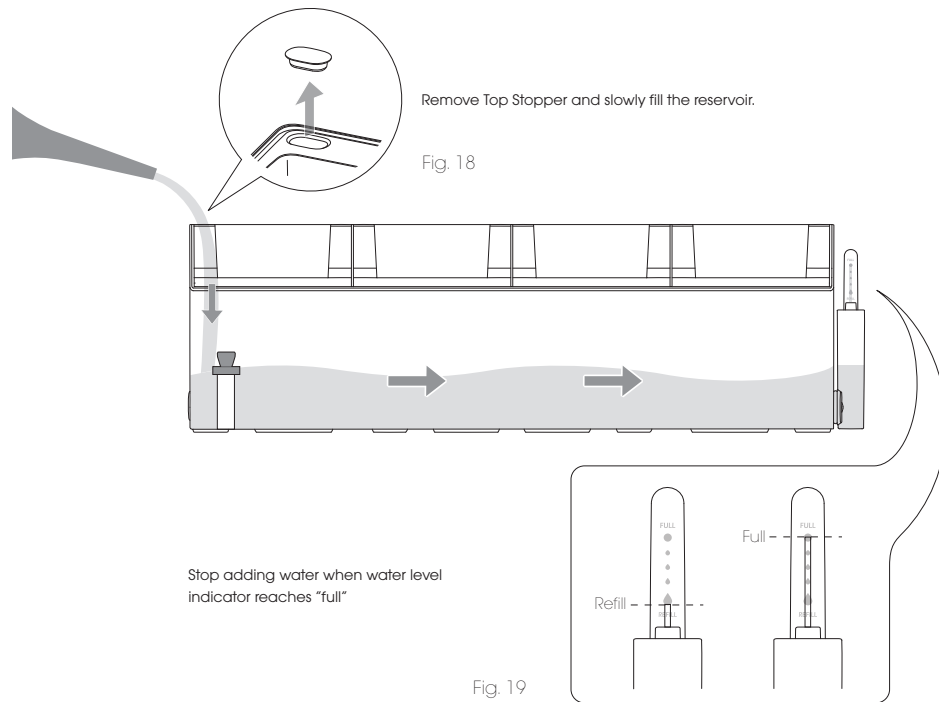

Fig. 19
- The water level indicator stem should rise as the water level rises. Stop watering when the indicator reaches FULL. Refer to (Fig. 19)